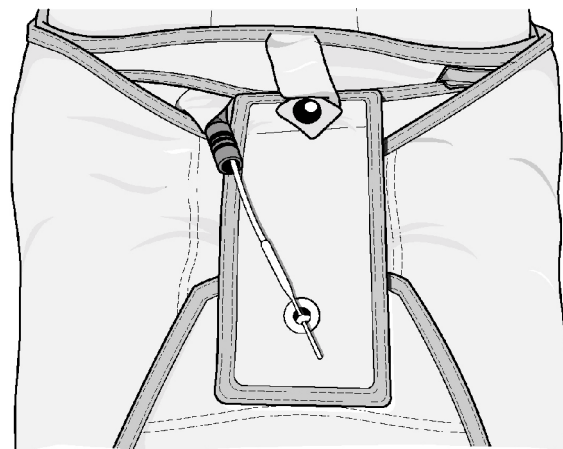

Figure 8. Ripcord Pin Through Closing Loop
f. Close flap using closing plate and roll bar and insert ripcord pin through closing loop. Seat the ripcord pin until the tip is 1/2-in. ($\pm 1/16$) beyond the outer edge of the grommet (Figure 8).